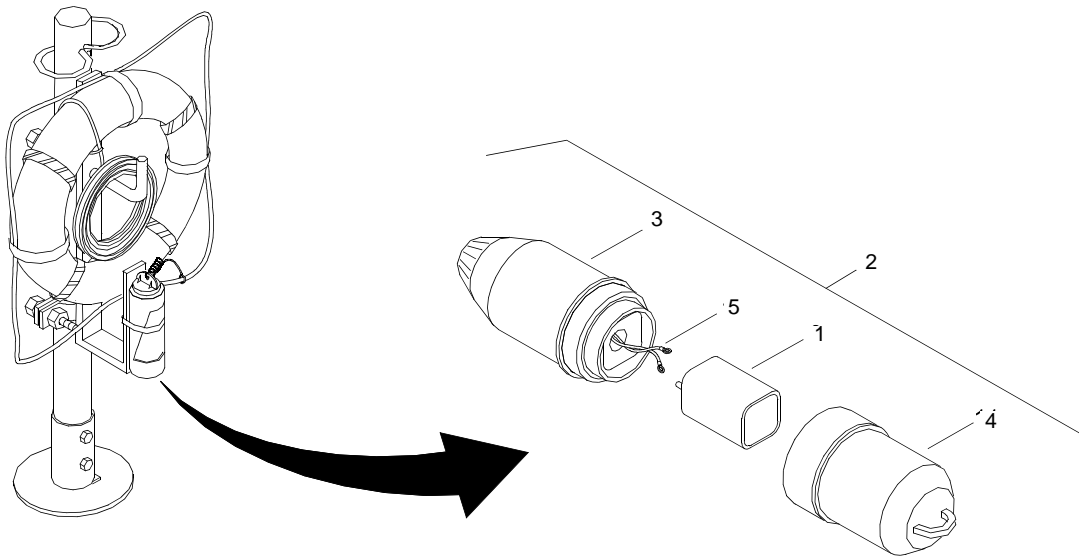

Figure 3. Strobe Light Battery Installation
7. Install strobe light batteries (figure 3, item 1) in life ring strobe lights (figure 3, item 2).
- a. Unscrew strobe light housing (figure 3, item 3) from strobe light base (figure 3, item 4).
- b. Position battery (figure 3, item 1) into strobe light base (figure 3, item 4).
- c. Connect two battery wires (figure 3, item 5) to battery (figure 3, item 1).
- d. Screw strobe light housing (figure 3, item 3) and strobe light base (figure 3, item 4) together.